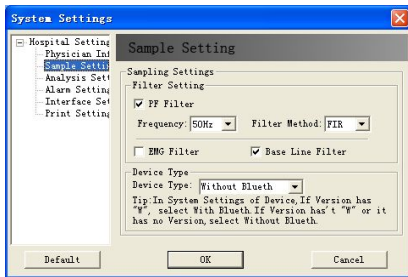

Fig.6-23
- ◆ In the "**sampling setting**" (Fig.6-23), you can set the power frequency filter parameters, EMG Filter, Base Line Filter ,Device Type and so on.